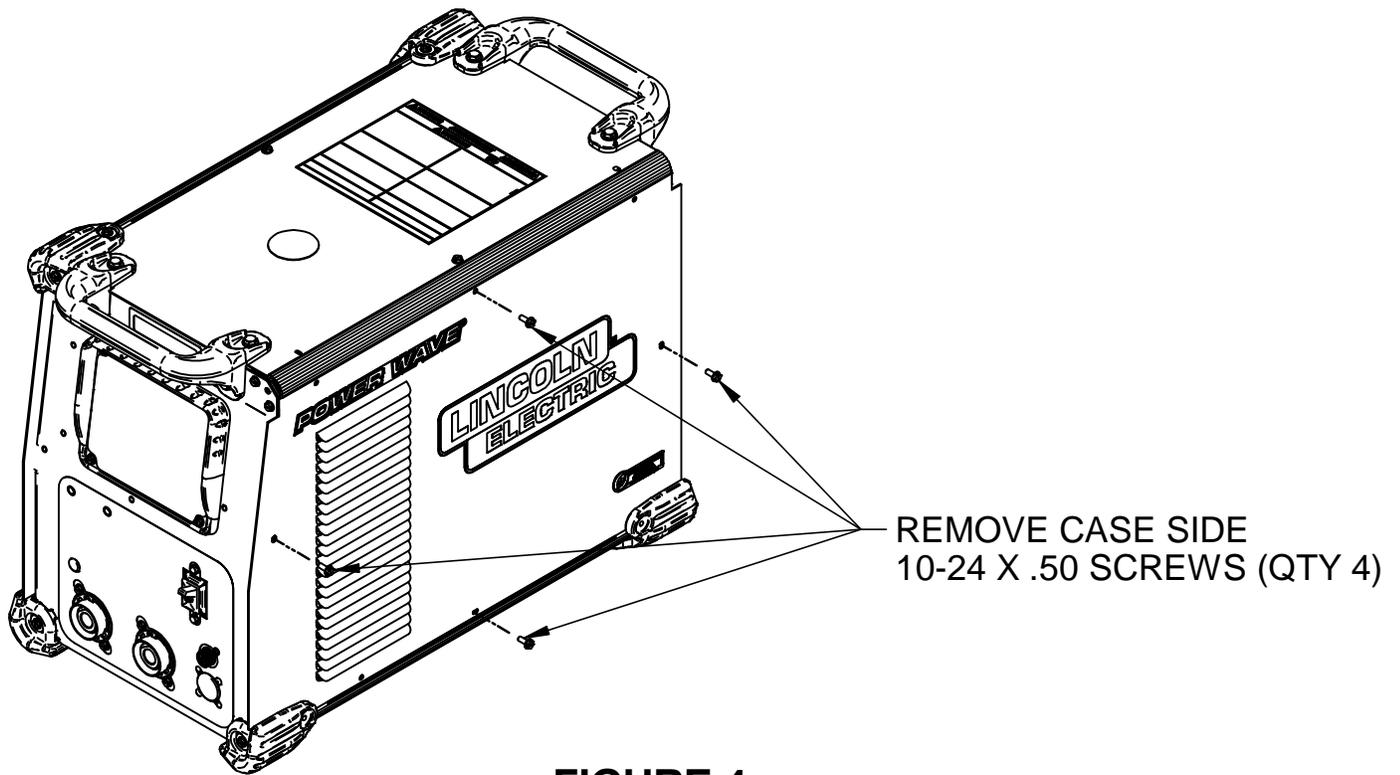

FIGURE 4
6. Remove the right case side by removing the four screws mounting them, using a 5/16" nut driver or other suitable tool (**Figure 4**). Retain all mounting hardware for case side.